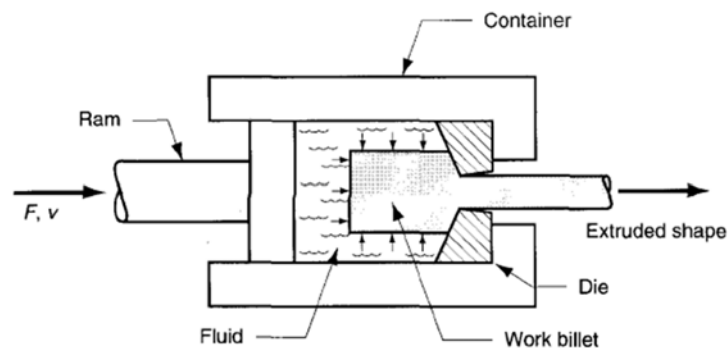

Figure Q6(E): Extrusion Process
- E. Refer the Figure Q6(E), name the type of extrusion process shown. State TWO (2) advantages and TWO (2) disadvantages of this process. (4 marks)